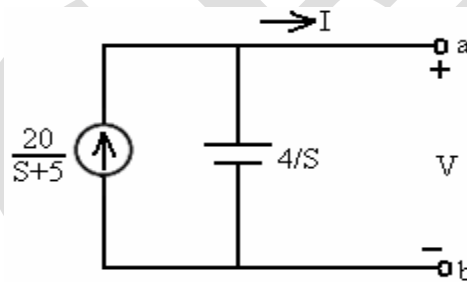

Figure. 2
- b) Convert the current source shown below Figure. 2 in to a voltage source in the S domains.